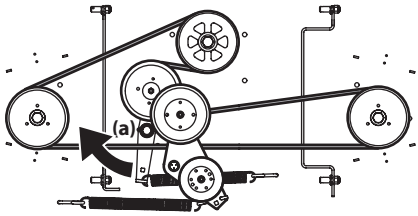

Figure 4-21
- Using a 1/2" drive insert the end into the 1/2" square opening in the deck idler assembly (a) and rotate the deck idler assembly (a) clockwise. See Figure 4-21. While holding the deck idler assembly (a), loosen the deck belt from the pulley and slide the belt away from the pulley.
- Route the new belt as shown in Figure 4-21. Then reinstall the deck and PTO belt.